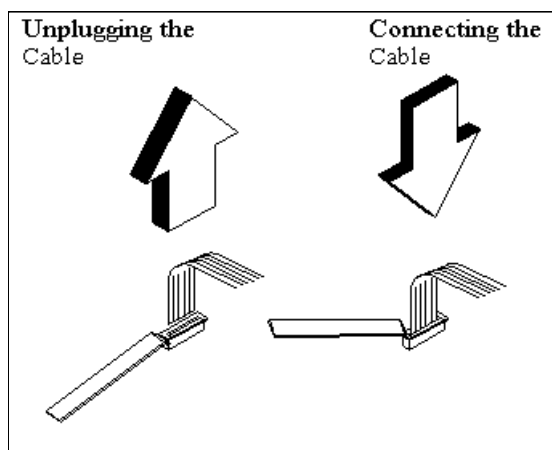

Figure 6-1 Removing/Installing Cables with Locking-Type Connectors
- Locking-type connectors - use a plastic stick to unlock and lock these type of connectors as shown in Figure 6-1.